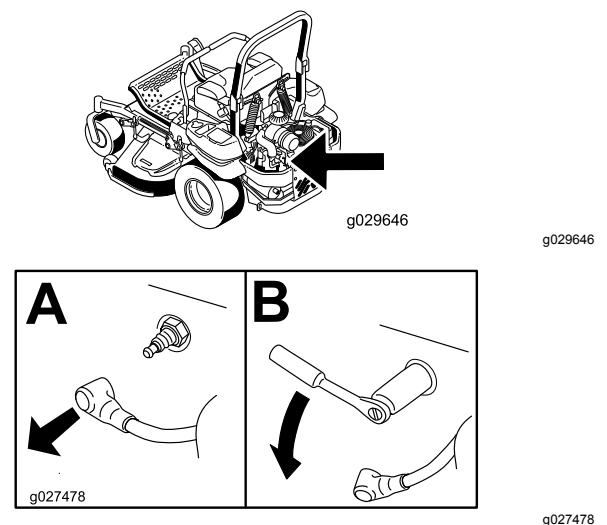

Figure 57
4. Remove the spark plug (Figure 57).